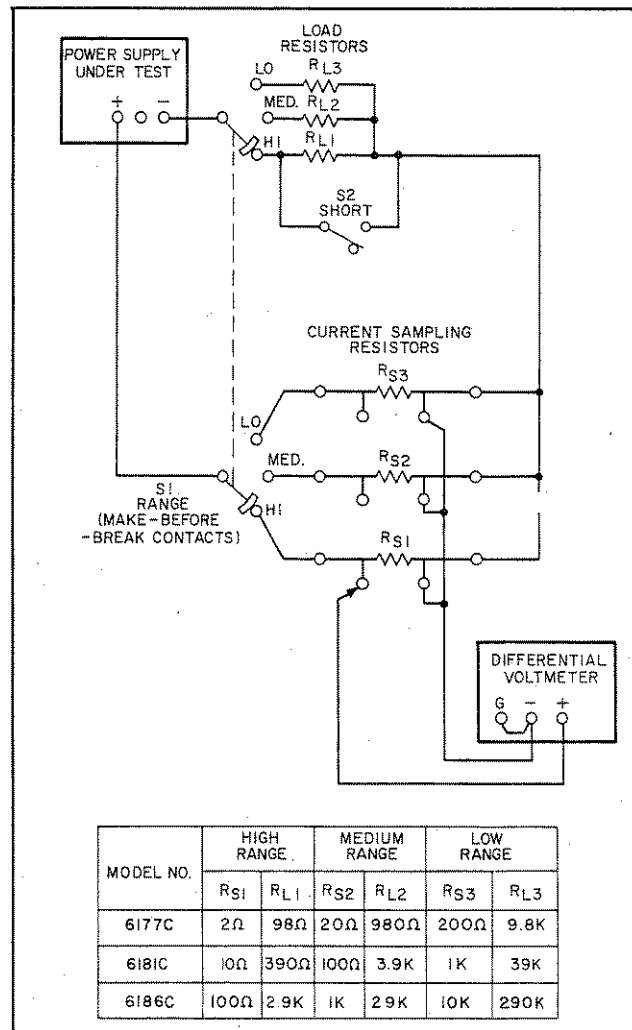

Figure 5-3. Output Current Test Setup
| Resistive Loads | Values: See Figure 5-3, 30 Watts. | Power supply load resistors | --- |
| Current Sampling Resistors | Values: See Figure 5-3, 0.5%, 10Watts, 5ppm, 4-Terminal. | Measure current; calibrate meter | R1, R2 and R3; see parts table. |
5-9 The monitoring device is connected across the sampling resistors as shown in Figure 5-3. As indicated in this illustration neither output terminal of the power supply is grounded and the measuring device case is connected to the junction of the load and sampling resistors. This arrangement prevents ground loop paths and shunt current paths. Notice that shunt resistance paths between the external switches and ground can exist. However, since the shunt resistance appears across only one of the external resistors and not across the entire output terminals of the supply, the performance of the supply is not degraded.
- Connect test setup shown in Figure 5-3, leaving switch S2 open throughout test.
- Connect test setup of Figure 5-3 except connect the differential voltmeter between the guard (terminal A0) and - output terminals (see Figure 3-7 for voltmeter connections).
- a. Connect test setup shown in Figure 5-3.
- a. Utilize test setup shown in Figure 5-3, except connect variable auto-transformer between input power source and power input to supply. Leave switch S2 open throughout test.
- a. Use test setup of Figure 5-3, except connect ac voltmeter across sampling resistors instead of differential voltmeter. Ensure that power supply output is floating to avoid ground loops.